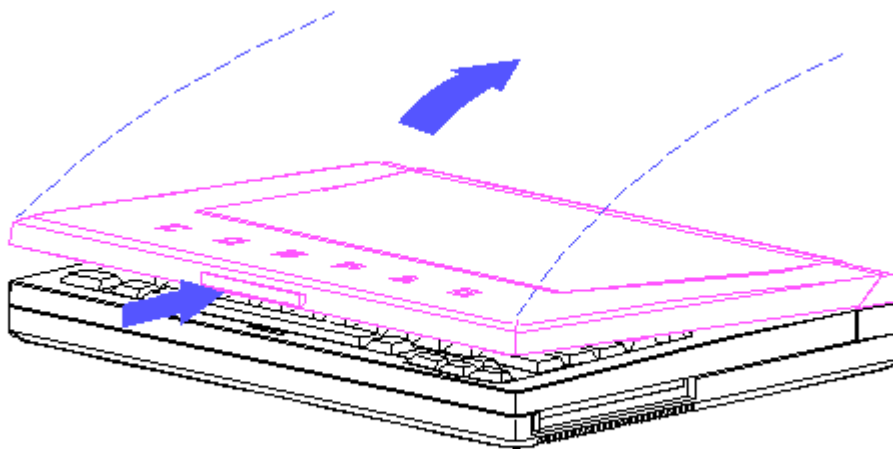

Figure 2-6. Rotating the Display to Open Position
5. Lift up on the latch located on the front of the computer and rotate the display to the fully open position (Figure 2-6).